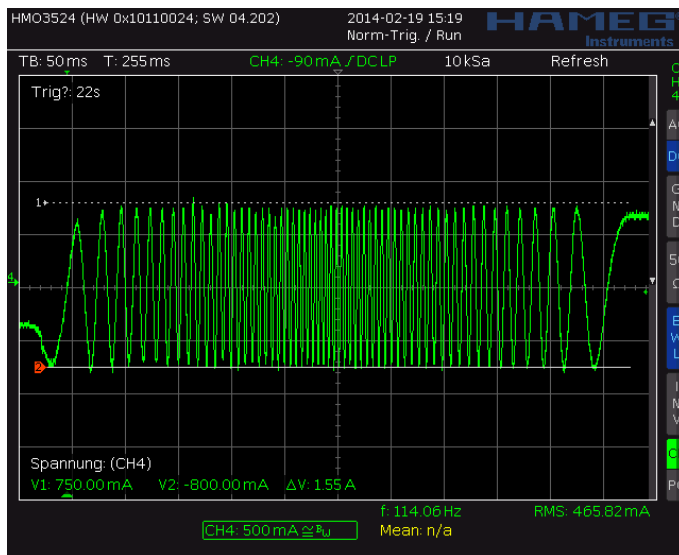
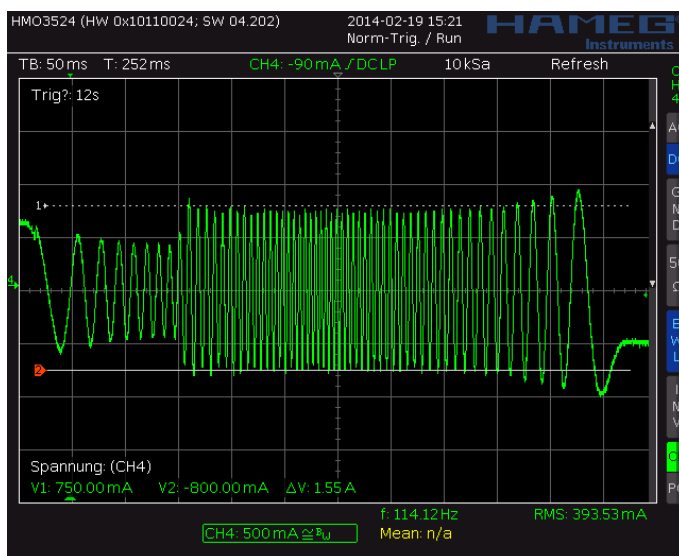
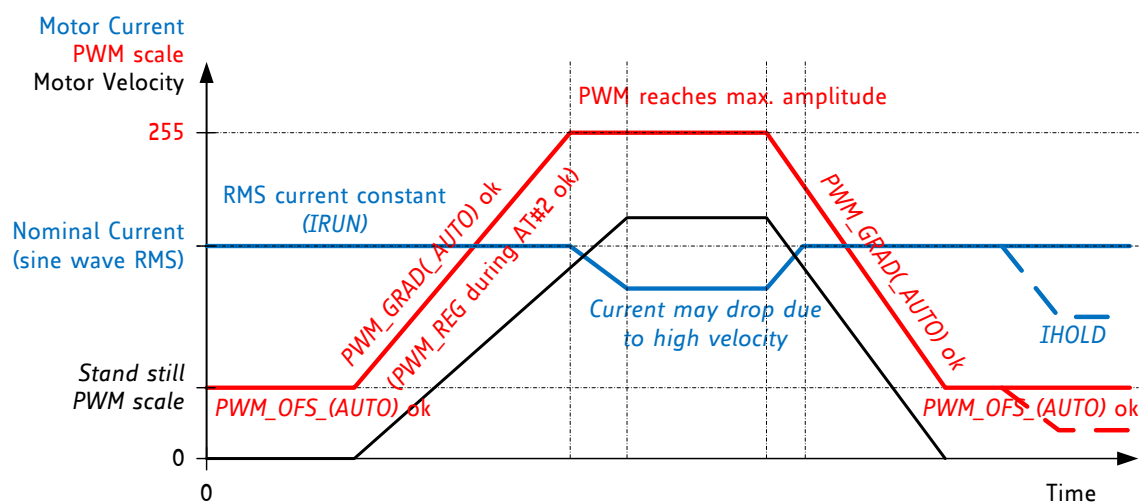

Figure 6.3 Scope shot: good setting for PWM_REG
Figure 6.4 Scope shot: too small setting for PWM_REG during AT#2
Figure 6.5 Successfully determined PWM_GRAD(AUTO) and PWM_OFs(AUTO)
In StealthChop voltage PWM mode, the autoscaling function (*pwm_autoscale* = 1, *pwm_autograd* = 1) regulates the motor current to the desired current setting. Automatic scaling is used as part of the automatic tuning process (AT), and for subsequent tracking of changes within the motor parameters. The driver measures the motor current during the chopper on time and uses a proportional regulator to regulate *PWM_SCALE_AUTO* in order match the motor current to the target current. *PWM_REG* is the proportionality coefficient for this regulator. Basically, the proportionality coefficient should be as small as possible in order to get a stable and soft regulation behavior, but it must be large enough to allow the driver to quickly react to changes caused by variation of the motor target current (e.g. change of *VREF*). During initial tuning step AT#2, *PWM_REG* also compensates for the change of motor velocity. Therefore, a high acceleration during AT#2 will require a higher setting of *PWM_REG*. With careful selection of homing velocity and acceleration, a minimum setting of the regulation gradient often is sufficient (*PWM_REG*=1). *PWM_REG* setting should be optimized for the fastest required acceleration and deceleration ramp (compare Figure 6.3 and Figure 6.4). The quality of the setting *PWM_REG* in phase AT#2 and the finished automatic tuning procedure (or non-automatic settings for *PWM_OFS* and *PWM_GRAD*) can be examined when monitoring motor current during an acceleration phase Figure 6.5.